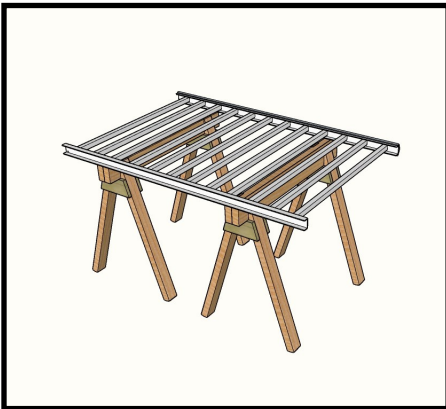

Fig 1
2. The process for cutting down a Fence Module is shown in figures 1 thru 5. (see below)